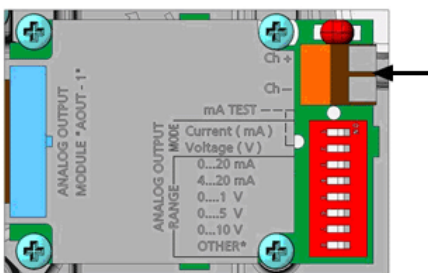

Figure 2 Analog output module
4. Connect the cables for the third analog output to the terminals **Ch+** and **Ch-** on the analog output module. The terminals are shown in Figure 2.